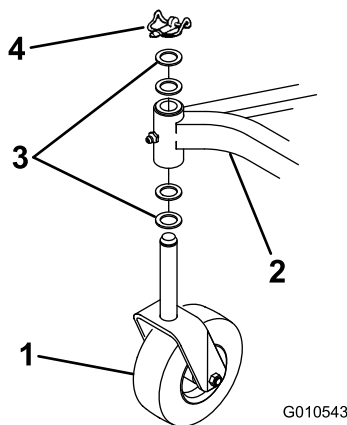

Figure 5
2. Remove the lynch pin and 2 thrust washers shipped on each castor wheel assembly. Leave 2 thrust washers on each shaft, insert the shafts into the frame mounting tube, and install the thrust washers and lynch pin (Figure 5).